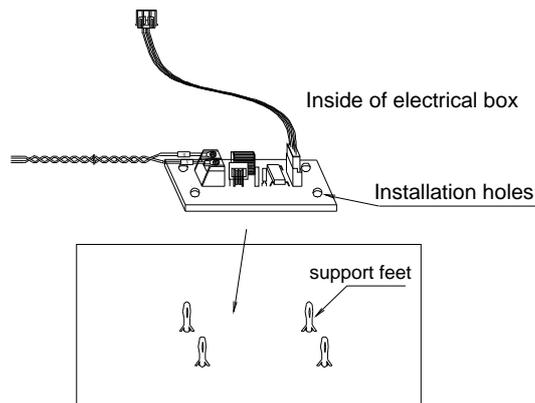

图 2
- As shown in figure 2. In the electrical box there are four spare white supporting feet, arranging for 63 mm x 26 mm rectangle. Set the extended pcb up to these four white support feet.